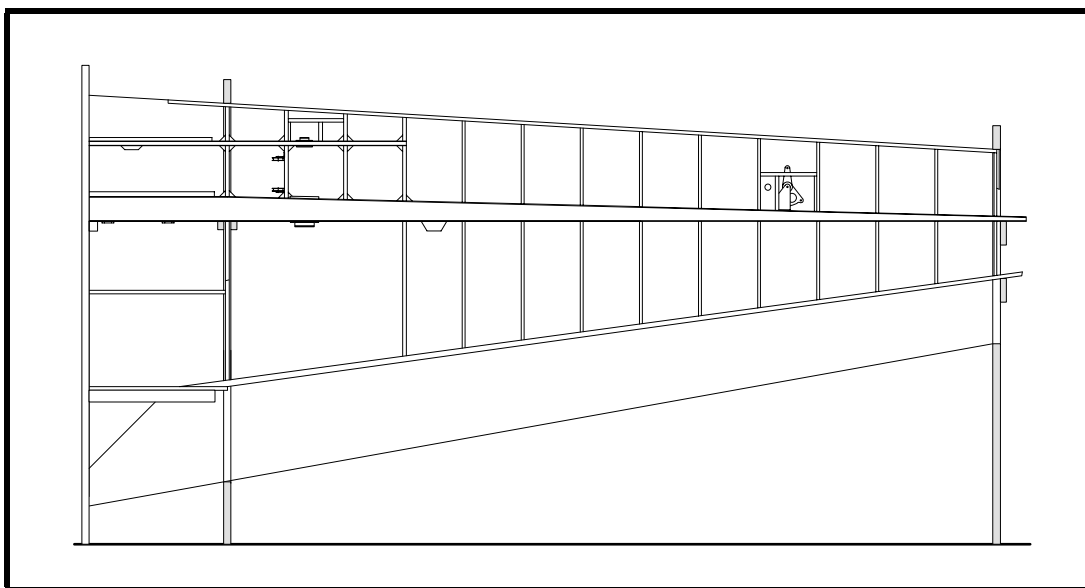

Figure 16
- ☐ With the aft wing spar clamped in place, glue all of the remaining ribs to the main spar except for the ribs at wing Sta. 2, 2-1/2 and 3. See Figure 16.